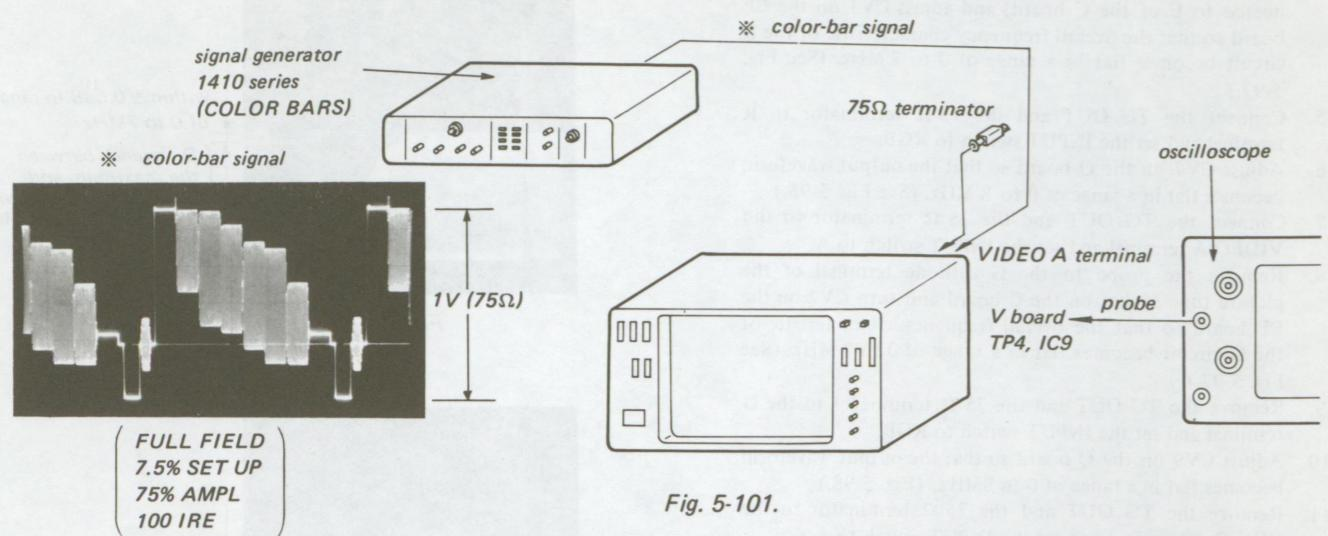

Fig. 5-101.
1. Complete the connections as shown in Fig. 5-101.